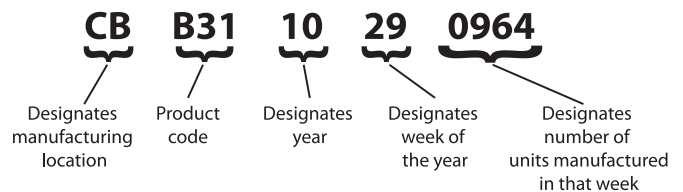

Figure 13: Current Serial Number Structure
- As of October 2010, H300 & H850 units are identified by differently structured serial numbers as shown in Figure 13. The number begins with the letters CB signifying the manufacturing location, followed by the reservoir product code B30, followed by digits signifying the year of manufacture, followed by a two digit number to signify the week of the year that the unit was manufactured and ends with digits signifying the unit's production number for that week. This serial number is found on a white, rectangular sticker placed on the outside of the cryogenic container. It can be seen through the vents on the side of the outer case. Units manufactured after August 2016 will have the UDI label. The serial number structure remains the same.